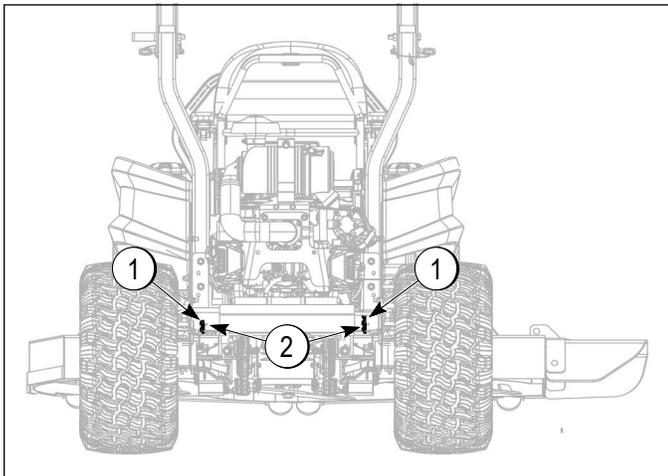

Figure 6-3
The transaxle bypass rods (1) are located at the rear of the machine as shown in Figure 6-3. These transaxle bypass rods serve as a neutral for moving the machine while the engine is not running.
2. Pull the rods out and lock them into place using the cotter pins (2), to activate the bypass.